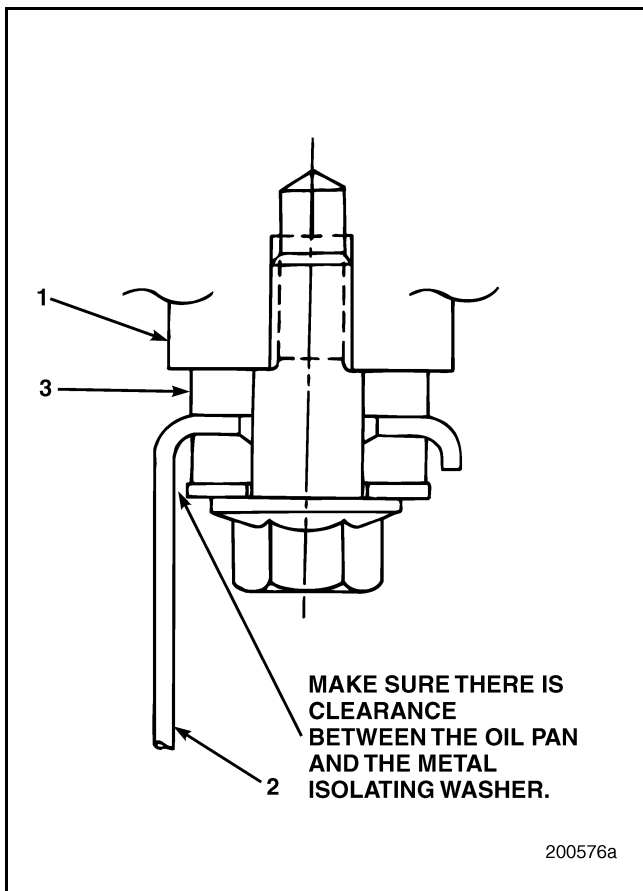

Figure 365 — Checking Clearance
- When installing the oil pan on the engine, center the pan before tightening the fasteners so that the edges of the metal isolator washers do not touch the pan. Refer to Figure 365.